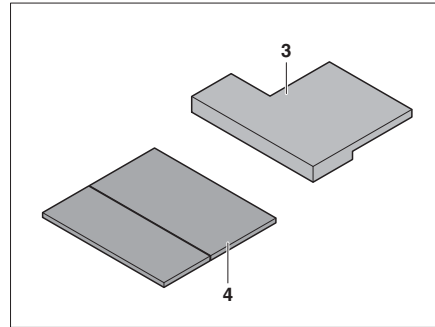

Fig. 169 Additional cushion
- Lay the guest bed foundation (Fig. 169,4) on the table. Lay the front edge of the guest bed foundation directly against the driver's seat.